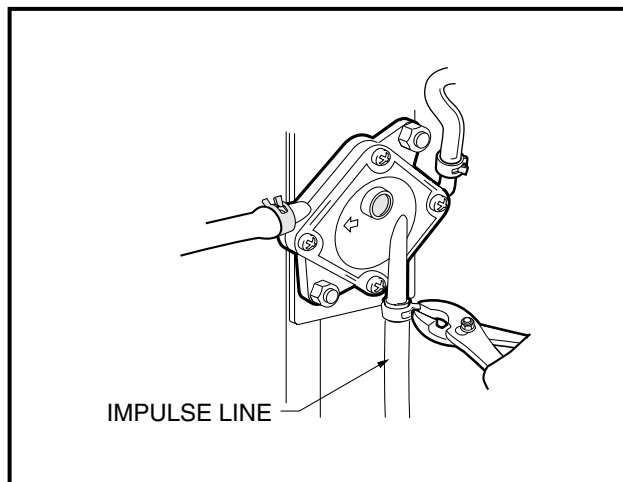

Figure 16-56 Impulse Line
31. Connect the impulse line to the fuel pump and secure with hose clamp (**Figure 16-56, Page 16-22**).